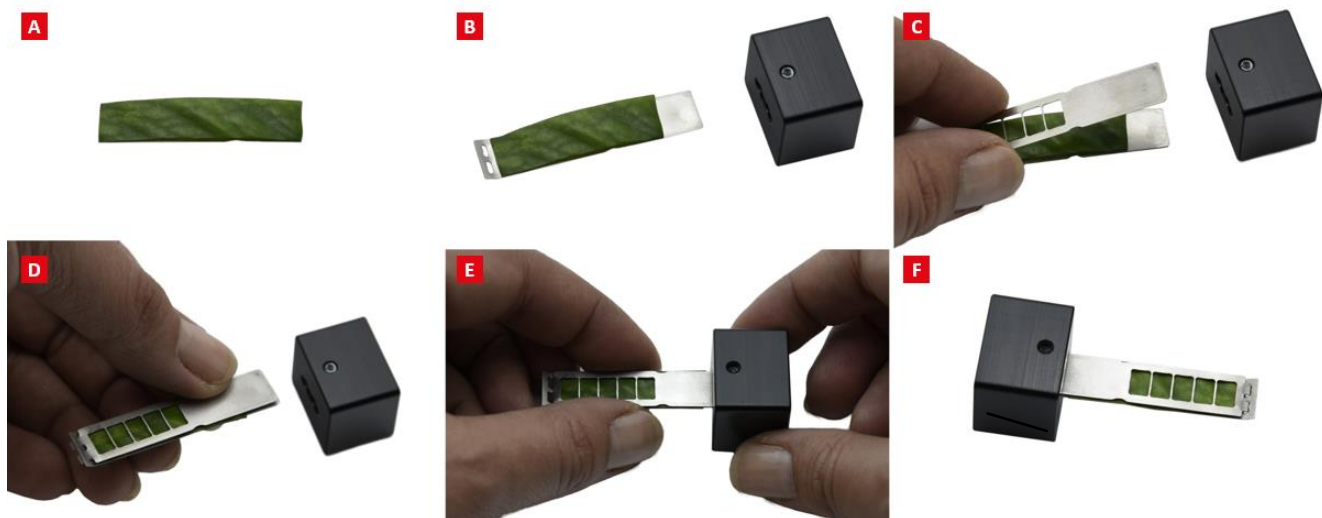

Fig. 15 Preparation of a leaf sample.
2. Leaf segment of the approximate size of the sample holder should be cut from the examined plant (Fig. 15). The optimal tool for shaping is a pair of scissors, which creates a very narrow cutting edge. Thin leaves are recommended for analysis - the smaller the heat capacity, the smaller error coming from non-homogeneous temperature scaling of the temperature inside the leaf. Keep the same orientation of the leaves for different measurements.